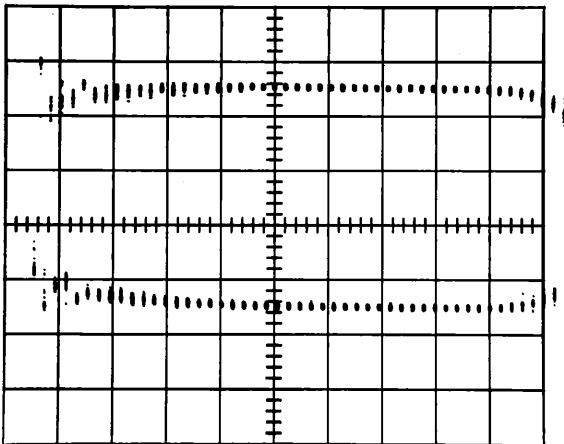

Fig. 6-4. Typical display with C156 properly adjusted.
13. Set the TRIGGER SENSITIVITY control for a stable display on the crt. Adjust C156 (Fig. 6-1) for two parallel lines of dots on the crt (see Fig. 6-4).